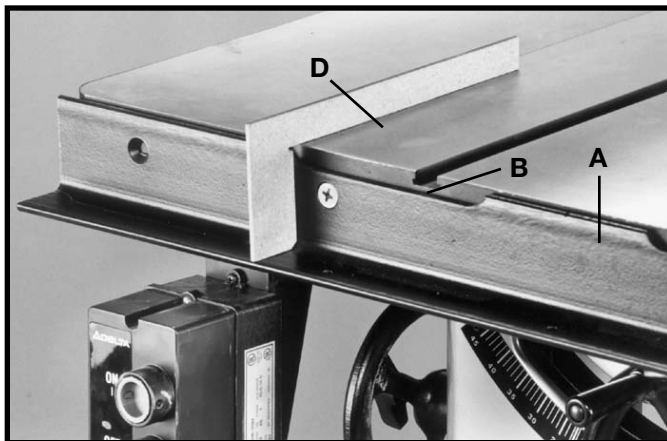

Fig. 12
Using template (D) Figures 12 and 13, to check and adjust front rail at both ends of the saw table as shown, to make sure rail (A) is level with table surface and tighten rail mounting hardware (B). **IMPORTANT: Template (D) must be on the saw table when checking, not on extension wing.**